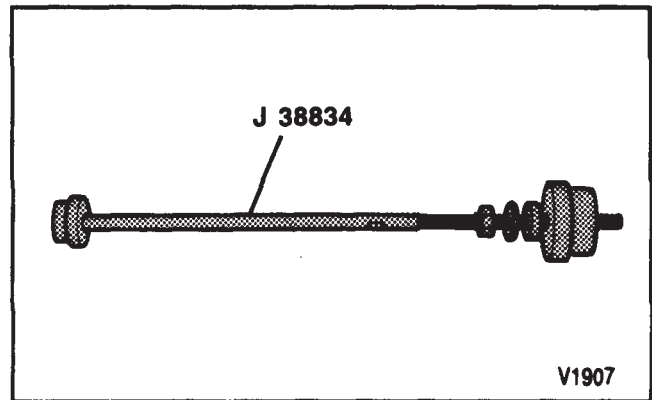

Figure 35—J 38834 Positioned to Install Balance Shaft Rear Bearing
1. Balance shaft rear bearing using J 38834 (figures 35 and 36).